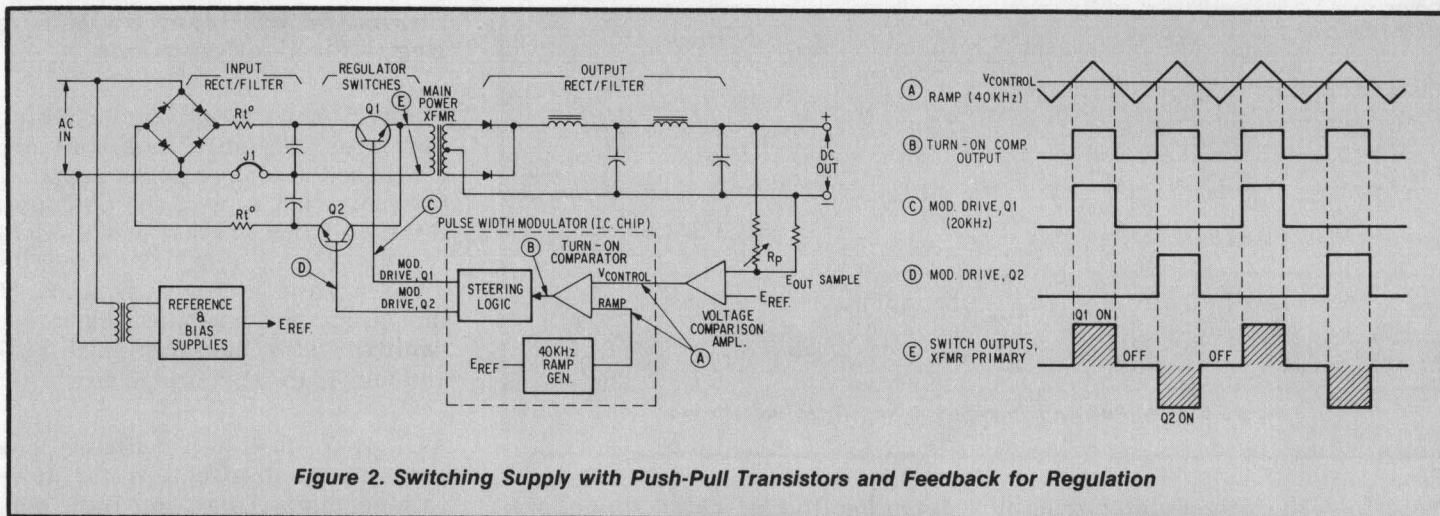
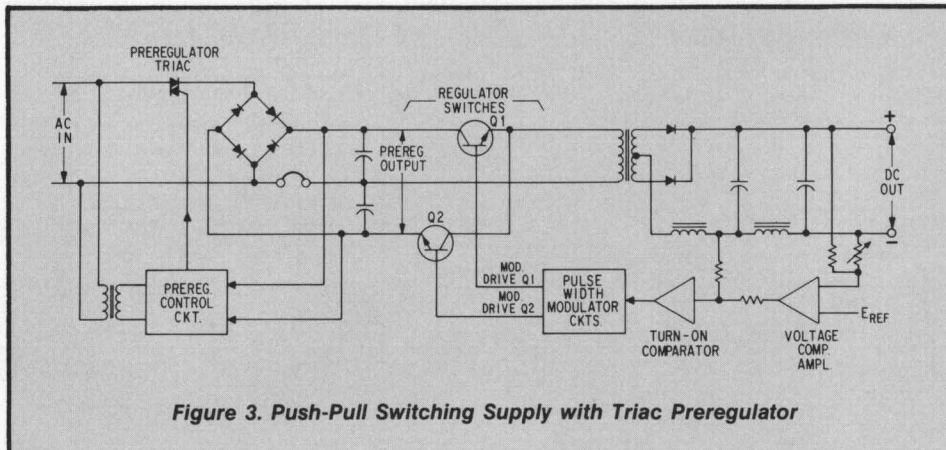
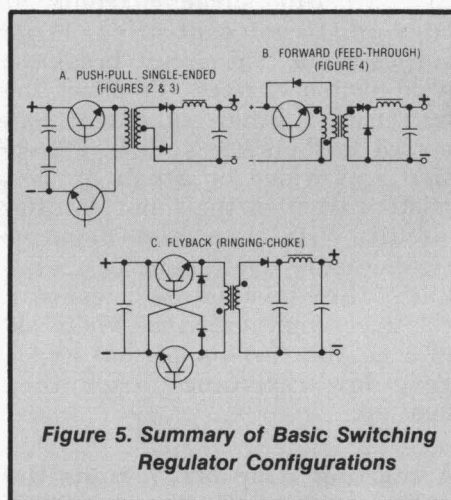

Figure 2. Switching Supply with Push-Pull Transistors and Feedback for Regulation
Figure 3. Push-Pull Switching Supply with Triac Preregulator
Figure 5. Summary of Basic Switching Regulator Configurations
Figure 2 shows a schematic of one of HP's higher power, yet less complex, switching supplies. Regulation is accomplished by a pair of push-pull switching transistors operating under control of a feedback network consisting of a pulse-width modulator and a voltage comparison amplifier. The feedback elements control the ON periods of the switching transistors to adjust the duty cycle of the bipolar waveform (E) delivered to the output rectifier/filter. Here the waveform is rectified and averaged to provide a dc output level that is proportional to the duty cycle of the waveform. Hence, increasing the ON times of the switches increases the output voltage and vice-versa.
The waveforms of Figure 2 provide a more detailed picture of circuit operation. The voltage comparison amplifier continuously compares a fraction of the output voltage with a stable reference (E_{REF}) to produce the $V_{CONTROL}$ level for the turn-on comparator. This device compares the $V_{CONTROL}$ input with a triangular ramp waveform (A) occurring at a fixed 40kHz rate. When the ramp voltage is more positive than the control level, a turn-on signal (B) is generated. Notice that an increase or decrease in the $V_{CONTROL}$ voltage varies the width of the output pulses at B and thus the ON time of the switches.
Figure 3 shows a schematic of another switching supply similar to Figure 2 except for the addition of a triac preregulator and associated control circuit. The triac is a bidirectional device and is usually connected in series with one side of the input primary. Whenever a gating pulse is received, the triac conducts current in a direction that is dependent on the polarity of the voltage across it. The goal is to control the triac so that the bridge rectifier output (dc input to the switches) is held relatively constant. This is accomplished by a control circuit that issues a phase-adjusted firing pulse to the triac once during each half-cycle of the input ac. The control circuit compares a ramp function to a rectified ac sinewave to compute the proper firing time for the triac.
freewheeling or catch diode) was not required in the two transistor regulators of Figures 2 and 3 because of their full-wave rectifier configuration.
Figure 5 shows three basic switching regulator configurations that are often used in today's power supplies. Configuration A is of the push-pull class, and this version was used in the switching supplies shown in Figures 2 and 3. Other variations of this circuit are used also, including two-transistor balanced push-pull and four transistor bridge circuits.